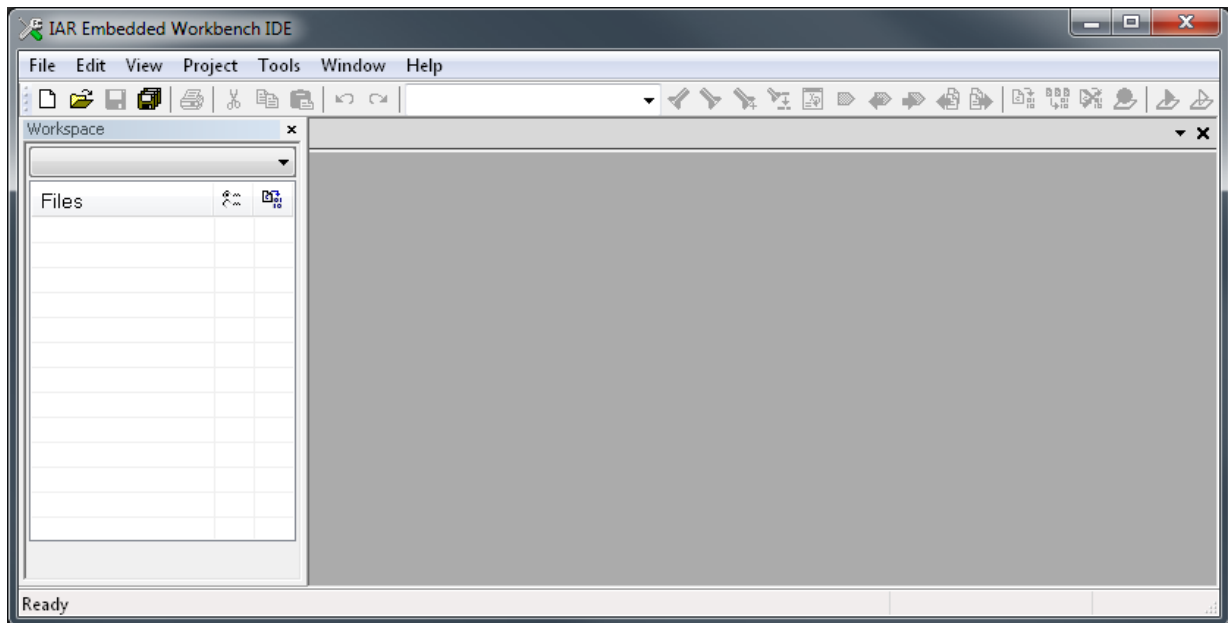

Figure 3.5: A newly opened »IAR Embedded Workbench« with an empty workspace on the left
Initially the “IAR Embedded Workbench” is opened resulting in an empty space in the center of the program window and empty workspace in the left part of the window, Fig. 3.5. This state can be achieved also by clicking the “File” option from the menu, followed by “New” and “Workspace”.
- Select “Empty project” and click “OK” to get a window “Save As”. Navigate to the folder where the project is to be saved (The “Workspace1\Project1” in our case). Under “File name:” type in the name of new project, like “MyFirstProject”, and click “OK”. The skeleton of the new project will be created in the stated directory, and the Workspace window (Fig. 3.5, left part of the window) of IAW EWB will contain the name of the newly created project.